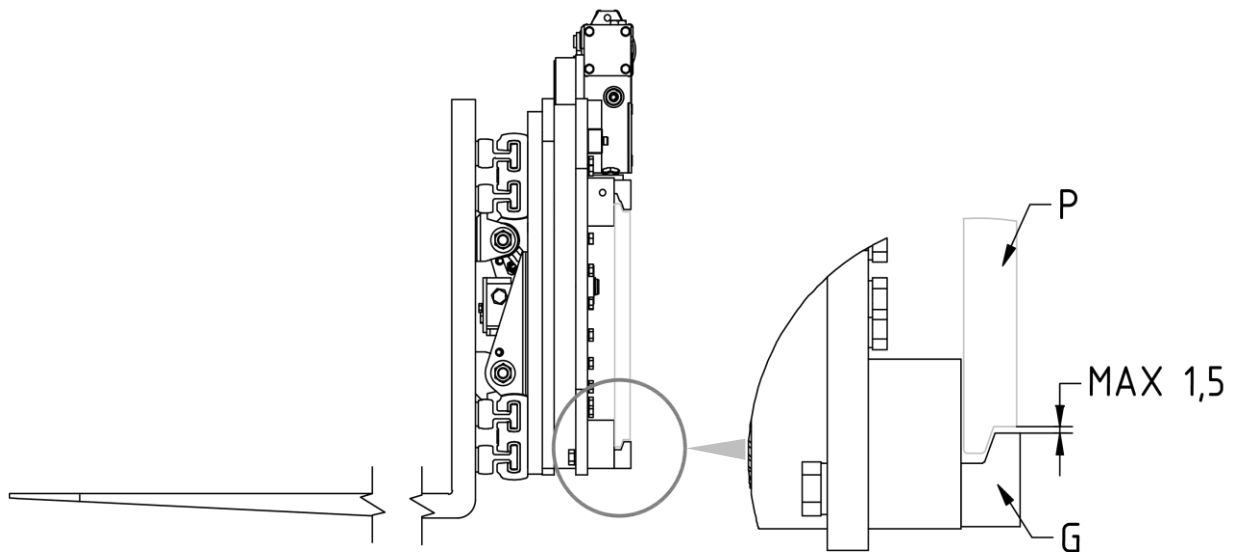

Figure 4
7. Screw on the 2 lower couplings **G** in such a way that their bodies also remains coupled to the lower part of the fork carriage **P** (with max. clearance of 1.5 mm, see detail *Figure 4*), tightening with the torque indicated in *Table 3*.